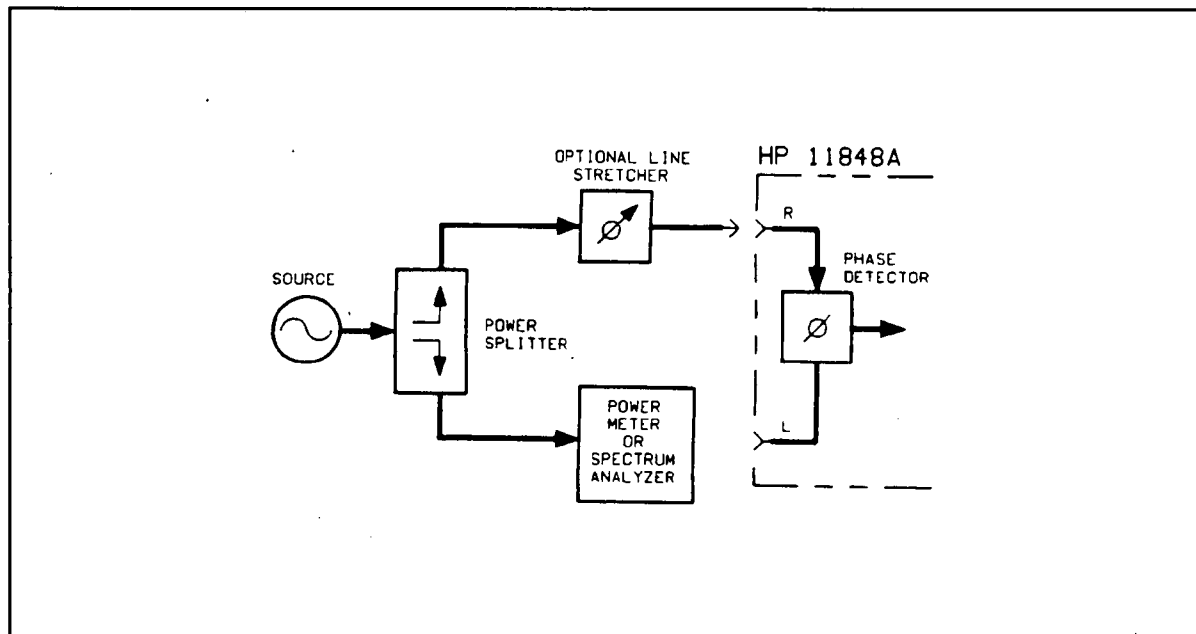

Figure 2-11. Measuring Power from Splitter
1. Connect circuit as per figure 2-11, and tighten all connections.